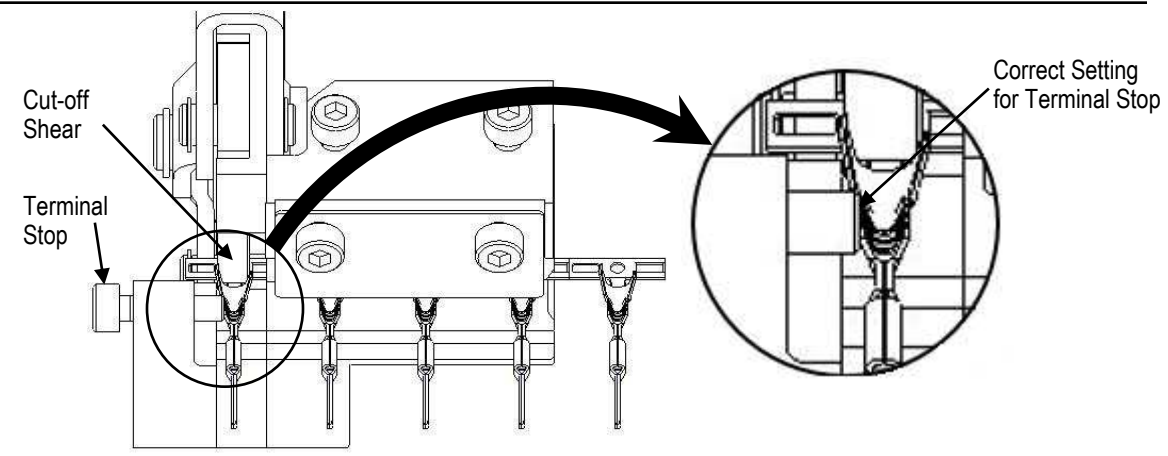

Figure 9
6. Slide the terminal strip into the tool until the terminal contacts the Terminal Stop. Adjust the Terminal Stop to position the tab in the center of the Cut-off Shear (see Figure 9)